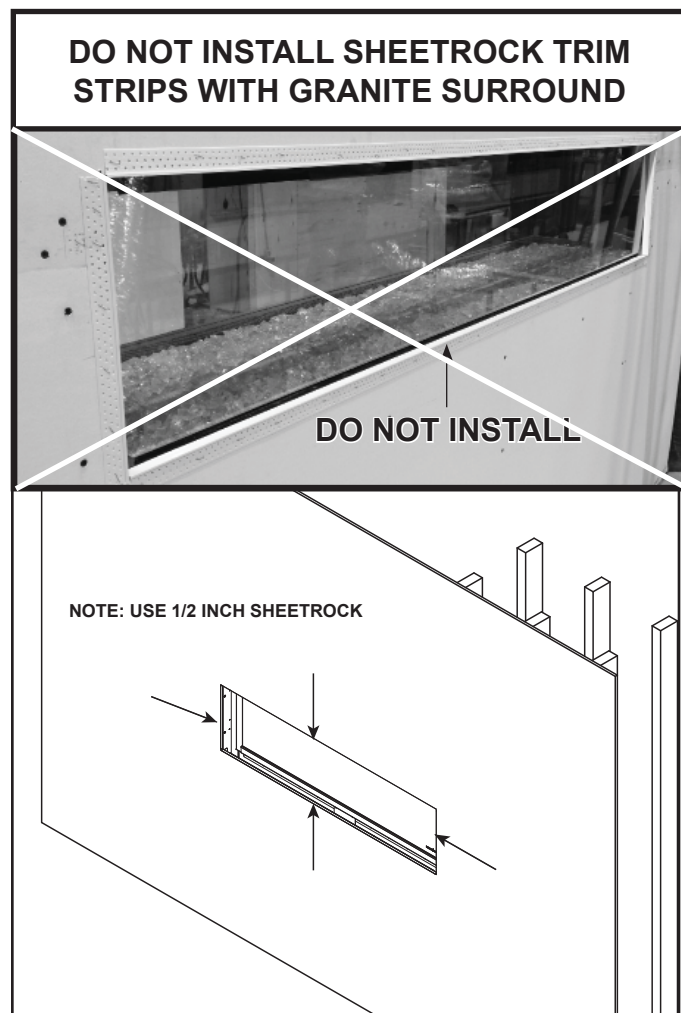
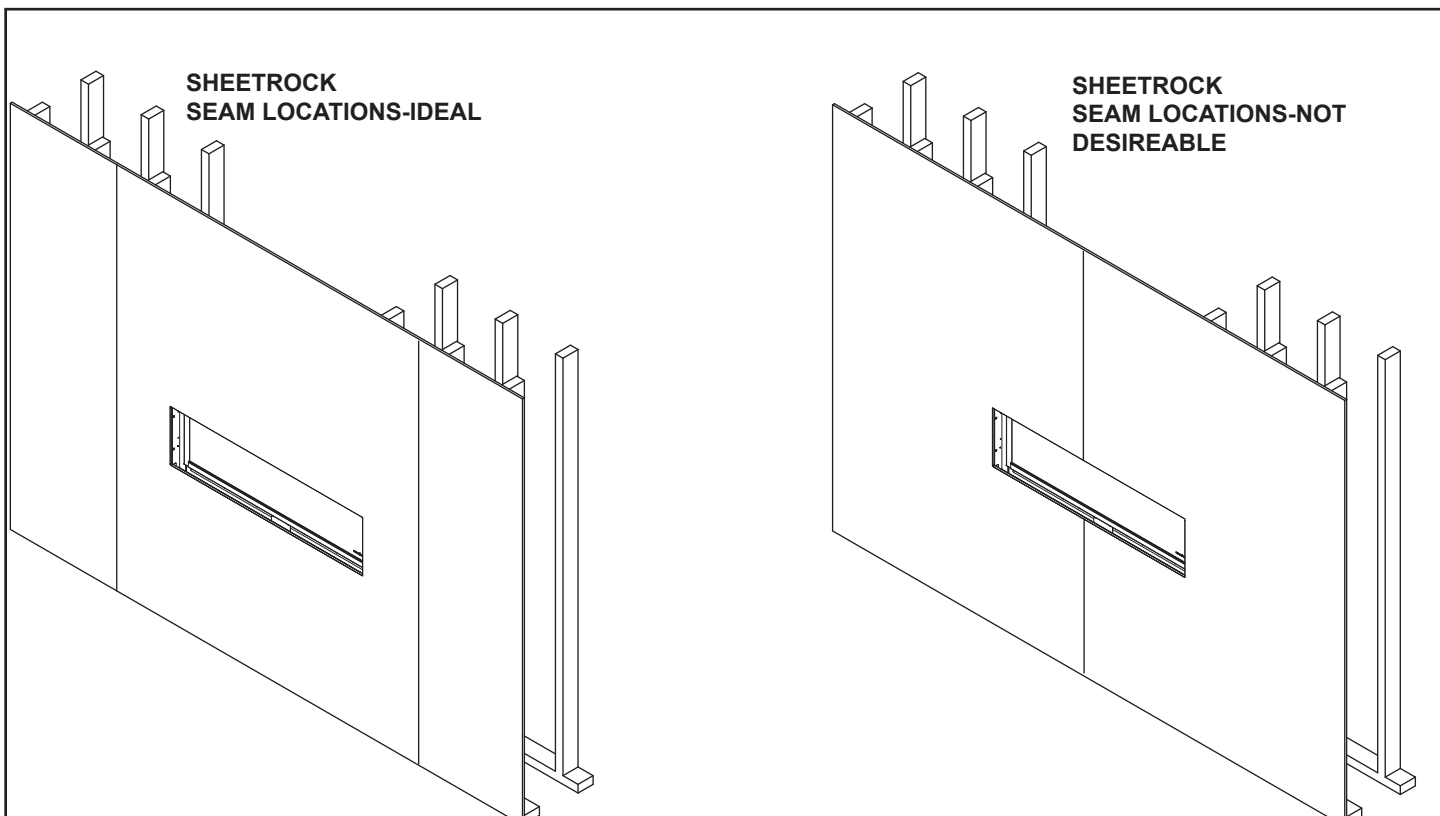

Figure 4. Do Not Install Sheetrock Trim Strips
Figure 3. Sheetrock Seams - Prior to Granite installation
Figure 3 shows the PRIMO installed in a sheetrocked wall.
1. Install 1/2 inch sheetrock up to appliance top, bottom and sides of the appliance opening as shown in Figure 3 and Figure 4.
3. A flat sheetrock surface will allow for the granite surround to sit flat. Sheetrock seams will lead to granite not being level. See Figure 3.